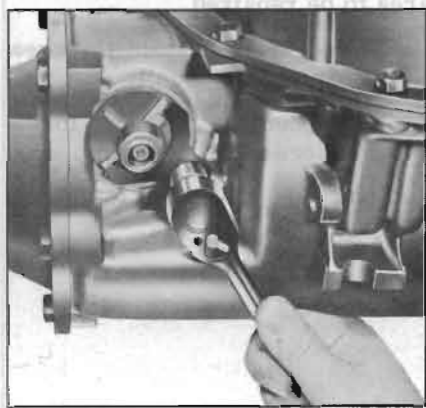

Figure 74-793
2. Install the speedometer driven gear retainer and attaching bolt. See Figure 74-793.